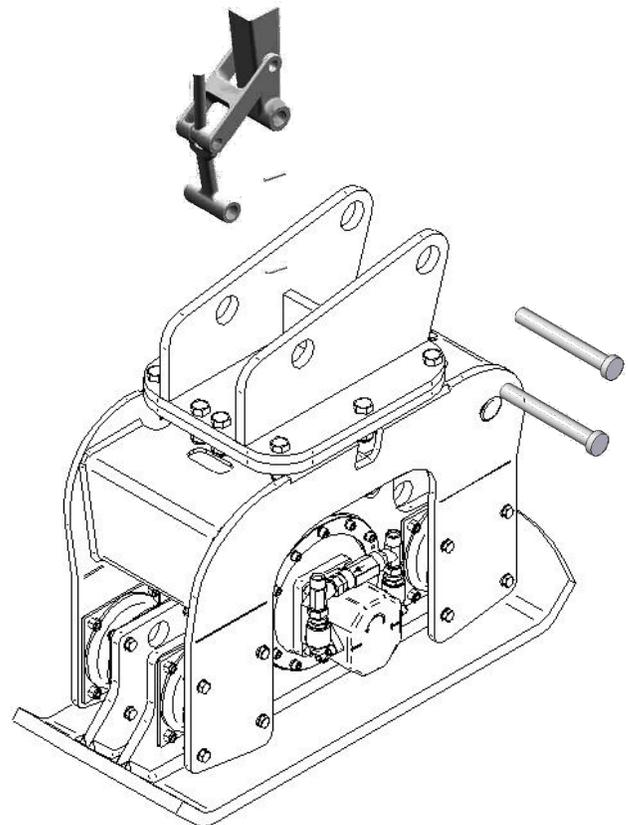

Figure 3
5. Line up the hole of the connecting rod with the second hole on the adapting plate, insert the second pin and secure [Figure 3].